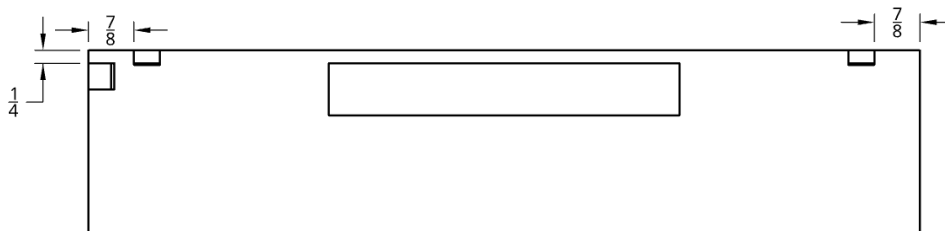

Figure 11. Manufacturing Steps 6-8
7. Spot weld the two pegs $\frac{7}{8}$ " from the sides of the baseplate as shown in figure 11, and the side being welded to the baseplate will be flush against the end as shown below. These should be on the same side of the baseplate as the cut-out.
8. Spot weld the third piece $\frac{1}{2}$ " from the end of the plate perpendicular to the other pegs, while the end of the piece welded down is flush with the end of the baseplate (see figure 11).